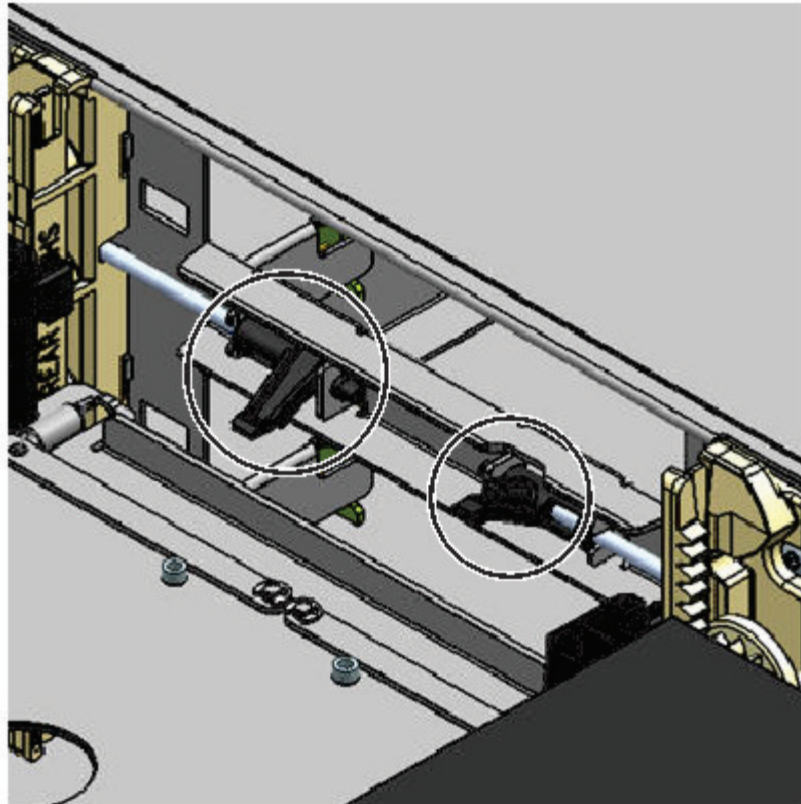

Figure 71. Magazine release levers
1. Remove the left and right magazines by using the magazine release levers (circled in Figure 71 on page 136). Push up on the lever, then pull the magazine out.